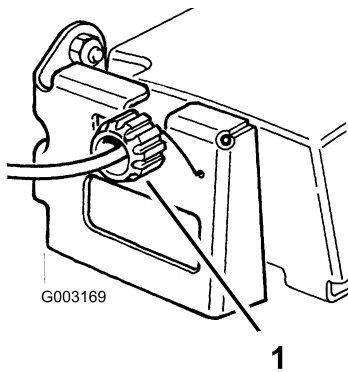

Figure 32
2. Rotate the control knob clockwise a half turn if the machine does not self-propel. If the machine creeps forward, rotate the knob a half turn counterclockwise to loosen the belt (Figure 32).